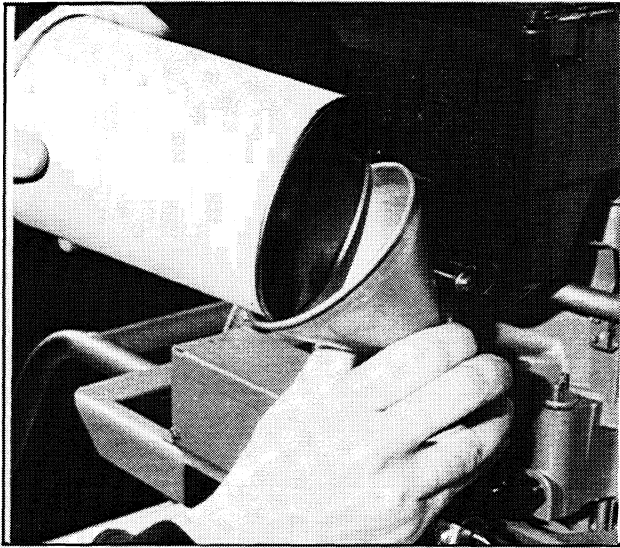

Figure 3-2. Oil Fill
6. To add oil, a funnel is recommended to prevent oil spill, see Figure 3-2.